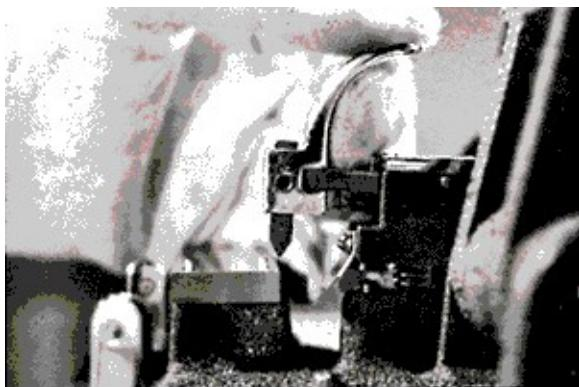

Figure 5
- The scraper which is used to remove the emulsion, an essential step in welding the two ends of film together (Fig. 5). The scraper is held taut by a spring and is designed to be used in a front to back motion only. Using the scraper in reverse motion can ruin its cutting edge and will increase the possibility of tearing the film during scraping.